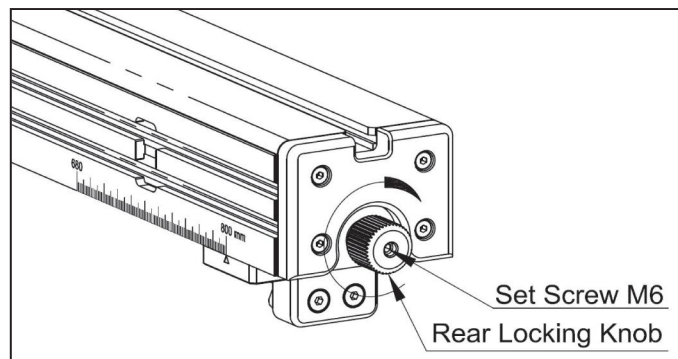

Fig. 6-24
- Refer to **Fig. 6-24**, start by completely loosening the M6 set screw.